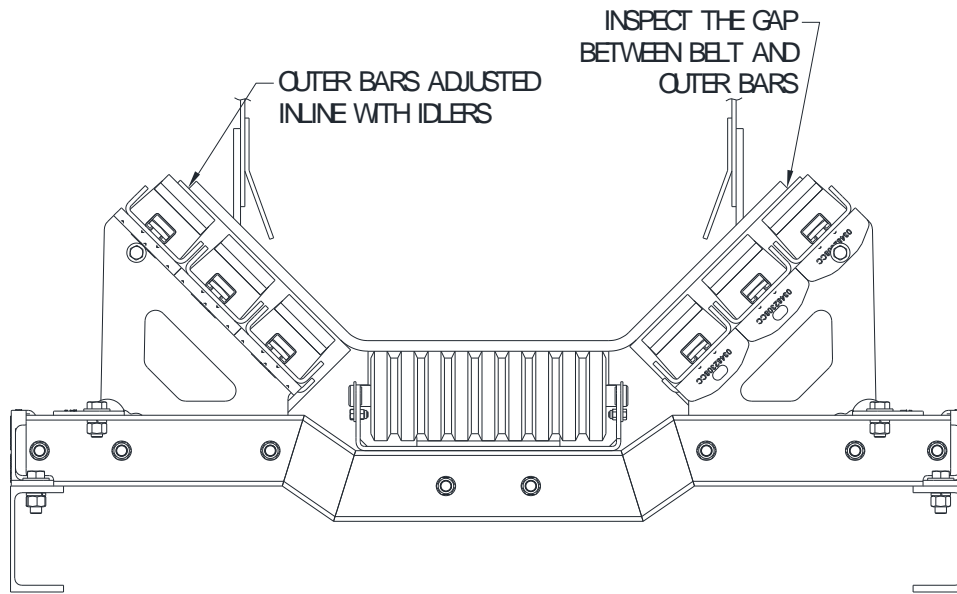

Figure 7 - Cradle Setup Clearances
- Step 12. Re-assemble the cradle in reverse order of disassembly (Fig 7).